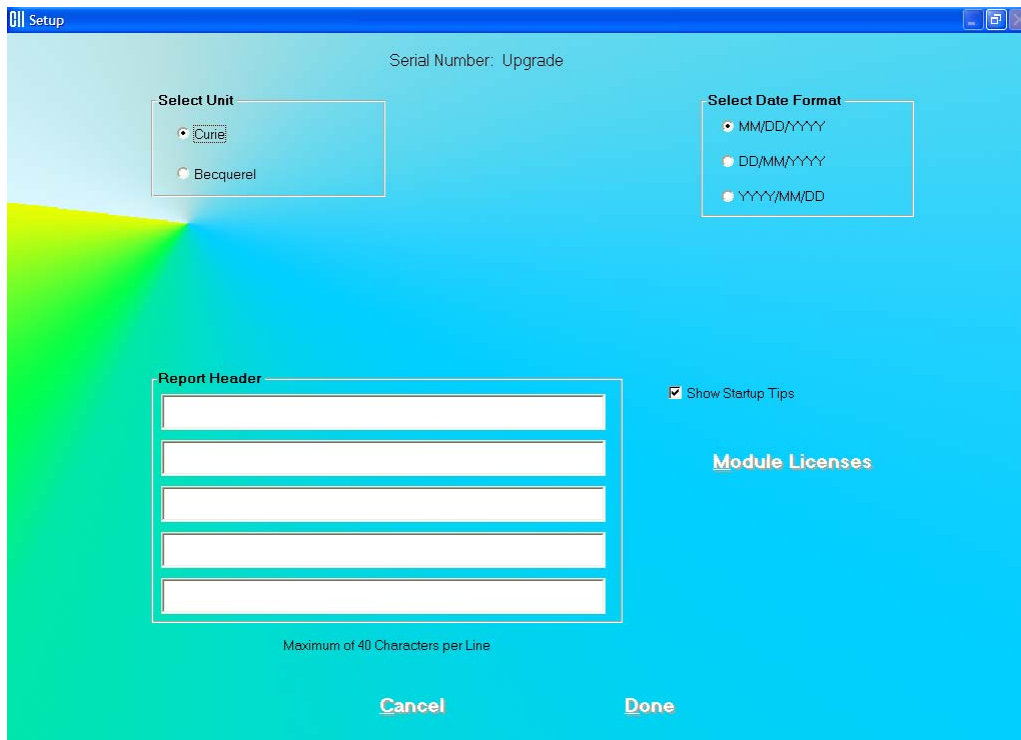

Figure 4-9 Setup Module Screen
The system parameters for the Absorbed Dose ALERT software can be altered through the Setup module. The Setup module (Figure 4-9 Setup Module Screen) standardizes units of measurement and date format for the entire system. A report header can be entered that will appear at the top of all report printouts. An option is also provided to enable or disable the viewing of the Startup Tips that will appear when the Absorbed Dose ALERT software is started.
1. Click the  button beside “Setup System Parameters”. Figure 4-9 Setup Module Screen will appear.